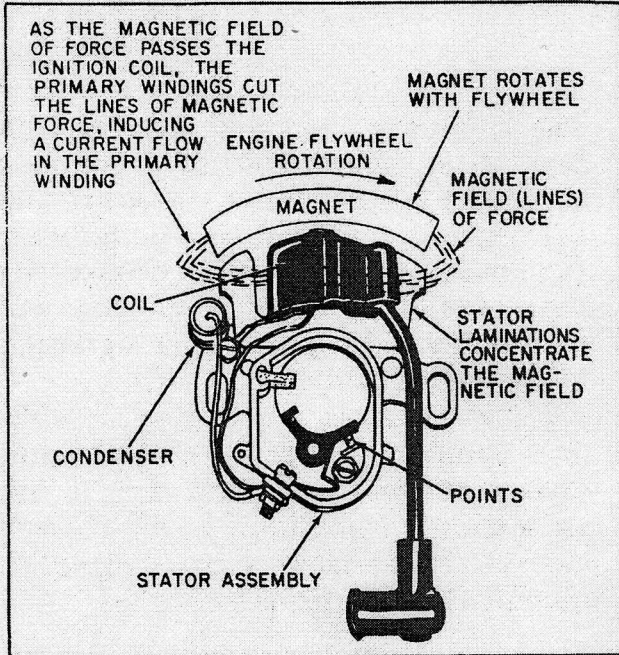

Figure 19
1. See Figure 19 - As the magnet and flywheel rotates the magnetic field of force around the magnet is cut by the coil windings. This cutting action induces a current flow (movement of electrons) within the primary windings.